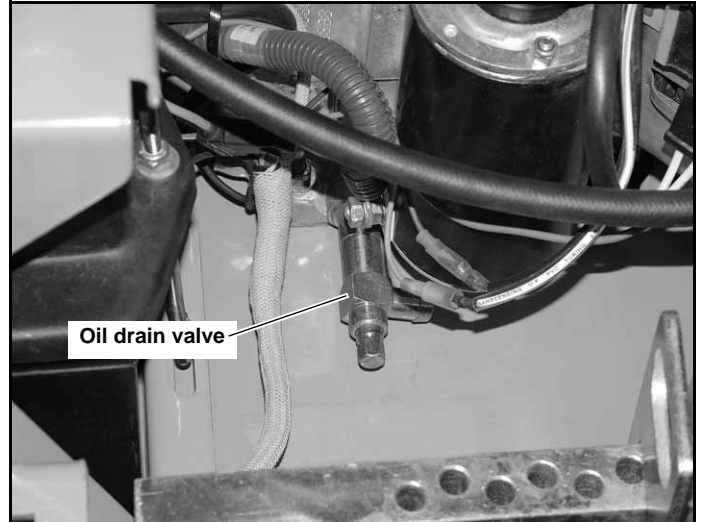

Figure 5-1
1. Locate the oil drain valve on the engine. Figure 5-1
9. Clean the oil drain hose and store it appropriately. Figure 5-1